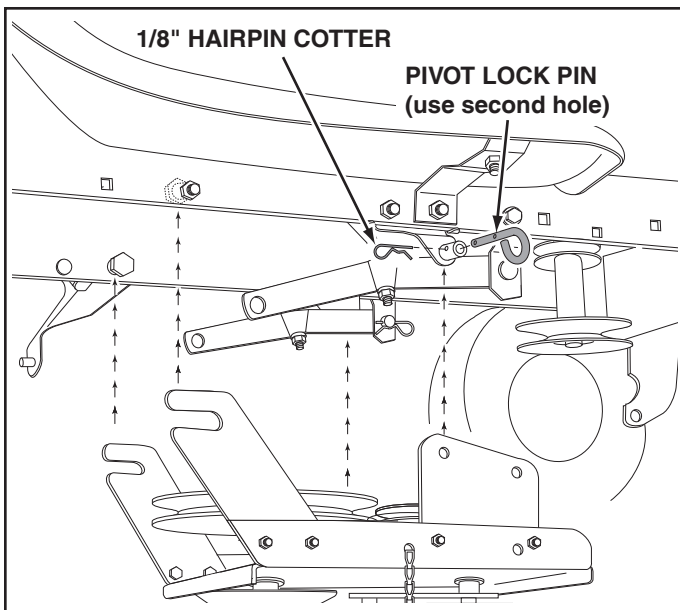

FIGURE 45
STEP 46: (SEE FIGURE 45)
NOTE; To prevent the chain from dragging on the ground, loop the end of the chain through the pivot lock pin. Refer to figure 45 on page 21.